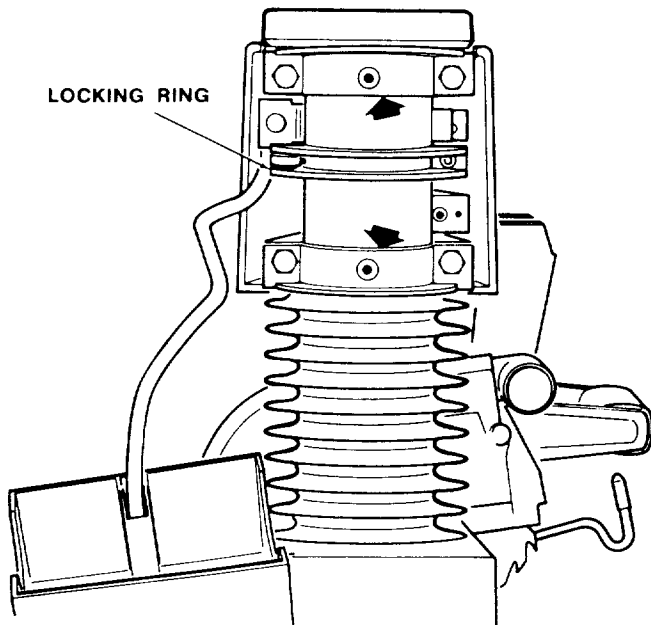

Fig. 141 - Bearing Points Where Arm Attaches to Column Tube
- Lubricate the bearing points where the *arm* attaches to the *column tube*. With a #2 Phillips screwdriver remove two screws and the rear arm cover for access to these points. Be careful not to get lubricant on the *locking rings* as this will adversely affect the miter locking function. (Figure 141)